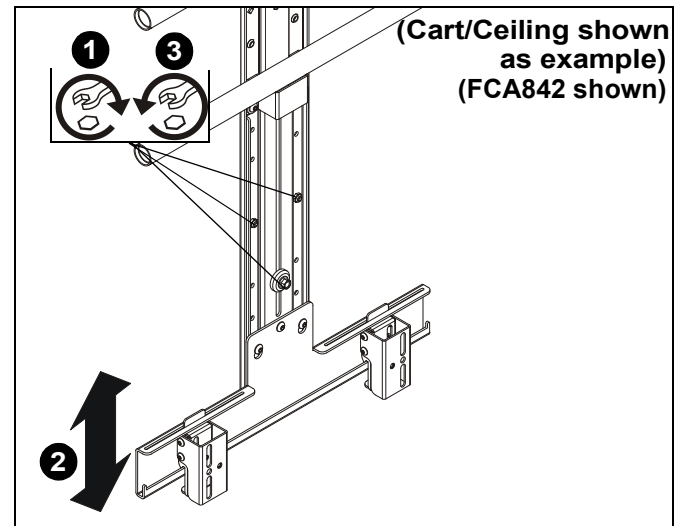

Figure 19
1. Loosen hardware used to attach main bracket (B) to upright bracket (A). (See Figure 19)
2. Adjust shelf height as desired using intermediate holes as needed. (See Figure 19)
3. Tighten hardware used to attached main bracket (B) to upright bracket (A). (See Figure 19)